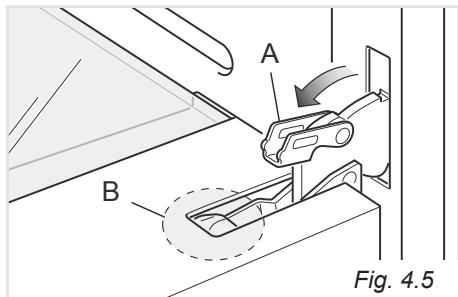
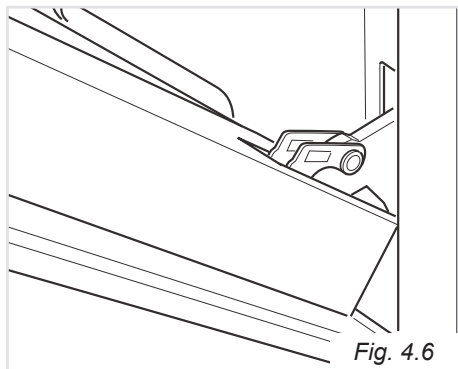

Fig. 4.5
Fig. 4.6
- Open the lever "A" completely on the left and right hinges (Fig. 4.5).
- Gently close the door (fig. 4.6) until left and right hinge levers "A" are hooked to part "B" of the door (fig. 4.5).
- Open the lever "A" completely on the left and right hinges (fig. 4.5).
1. Make sure the door is locked open (see fig. 4.6).